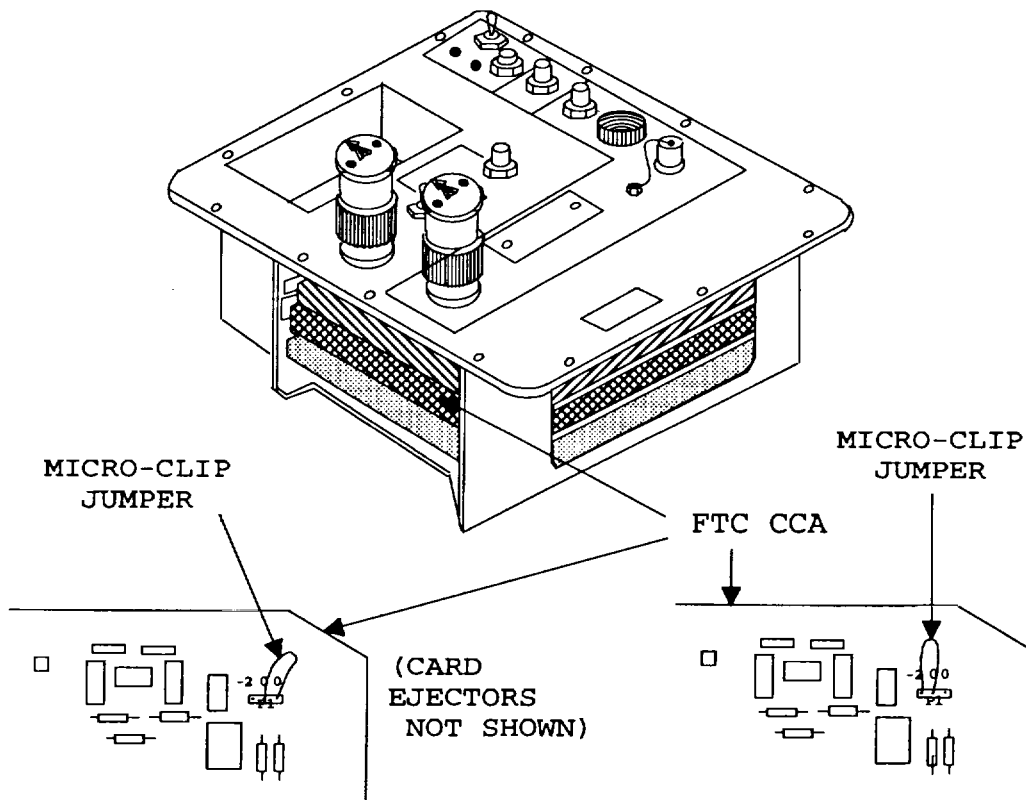

FIGURE 5-8. MCF Optical Power Test Setup.
Step 3.	Place micro-clip jumper between center pin of P1 and pin marked 0 dBm. Fig. 5-8 shows the MCF optical power test setup.